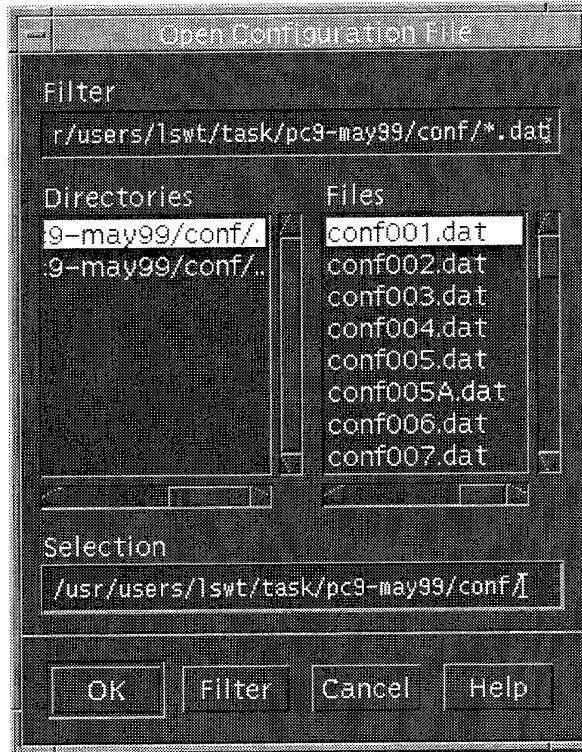

Figure 3. Open file dialog window after an 'OPEN' in the Configuration File Editor
2. **OPEN** - This button generates a file dialog window as shown in Figure 3, which allows the user to select an existing configuration file from a particular directory. The default directory is the `./conf` sub-directory located immediately beneath the current job directory. When a file is chosen, the information contained in this configuration file is then entered into the appropriate fields on each page of data. The user can then modify any parameter as required.